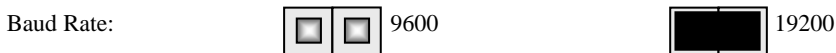

Figure 19 Baud Rate Jumper Settings in Remote Unit (see Figure 18 for location of jumper block)
2. Set the jumper to the required setting as shown in Figure 19.